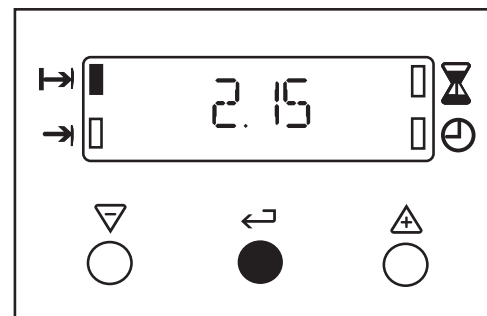

Fig.11.
- To check the 'End Time' during the cooking period, simply press the Selector Control button once and the remaining time will be displayed, as Fig. 11.